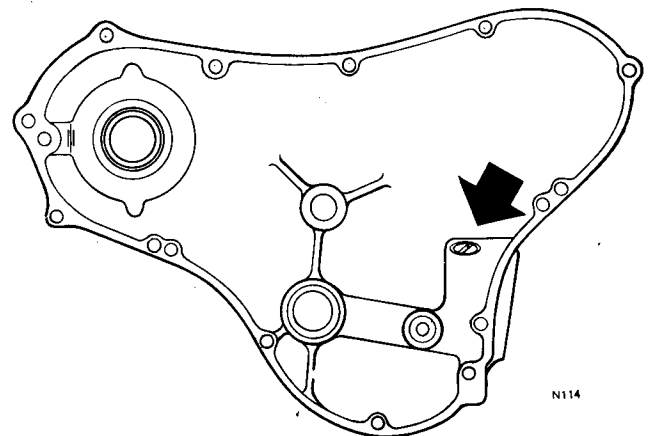
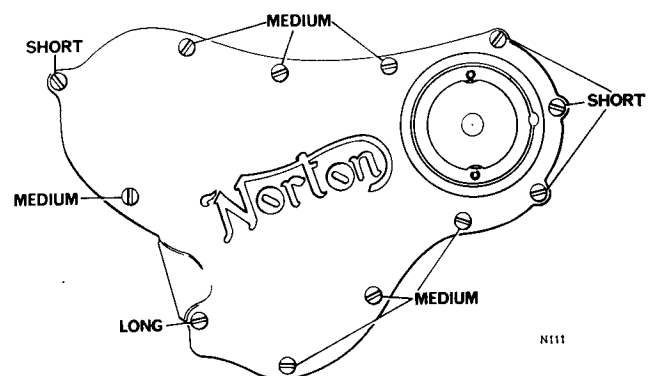

Fig. C31 Showing blanking plug in position in timing cover
Fig. C32 Positions and lengths of odd timing cover screws
Where a new timing cover is being prepared for fitting, check that the blanking plug shown in Fig. C31 is in position. The timing cover odd screw lengths are shown in Fig. C32.
The timing cover should be prepared by washing very thoroughly in clean gasoline (petrol) and if necessary by renewing the oil seals as described in Section C26. If a new timing cover is to be fitted, check that the blanking plug is fitted into the boss for the pressure relief valve. These features are shown in Fig. C31.
- 3 Fit the timing cover screws. The odd screw lengths are shown in Fig. C32 but the remaining screws are all of the same length. Secure the set of screws.